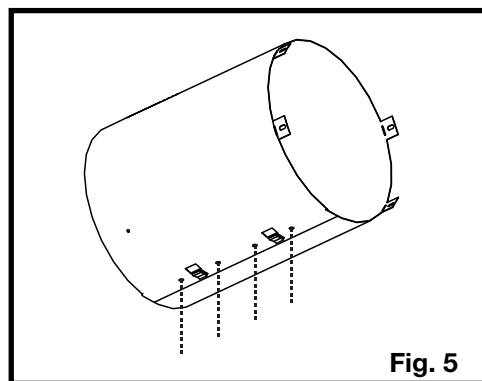

Fig. 5
5. Ensure both ends line up and secure ends with clip and fasteners (**Fig. 5**).